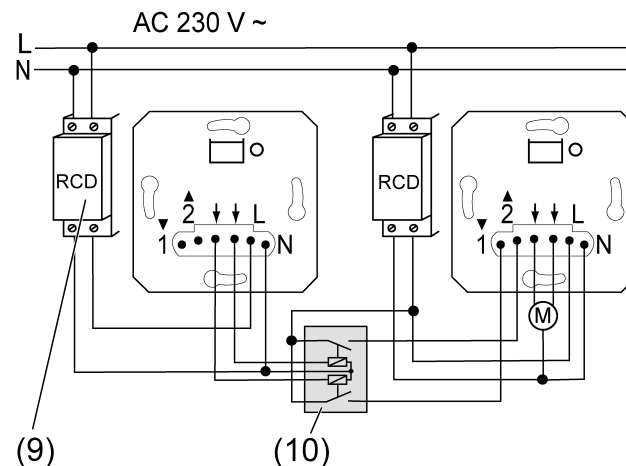

Figure 5: Connection example of two RCD circuits
- Connect the devices according to the connection example (Figure 5).